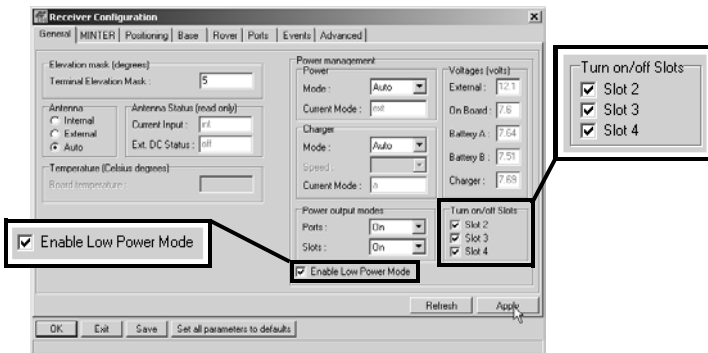

Figure 2-8. Enable and Apply Power Settings
8. Select and check each of the *Turn on/off Slots* check boxes to enable the corresponding internal slots (Figure 2-8).
9. Select and check the *Enable Low Power Mode* check box to put the receiver's processor into low power consumption mode (Figure 2-8).